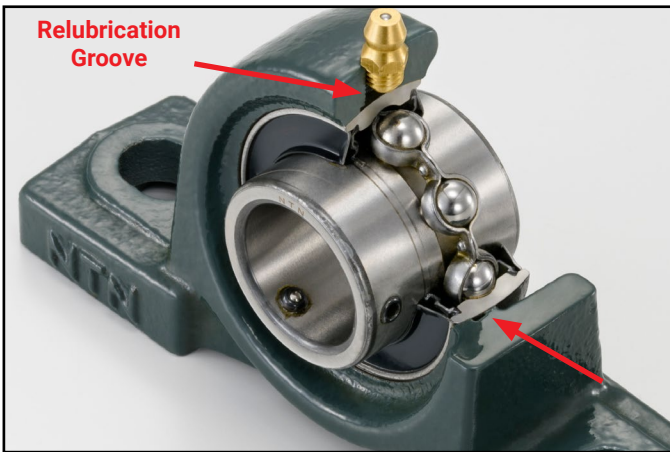

Figure 3
3. There are differences between manufacturers on the position of the relubrication groove or hole on the outer ring of the bearing. It can be on either the locking side or opposite of the locking side. If the features are not in line with each other, then relubrication will not be achieved (**Figure 3**).